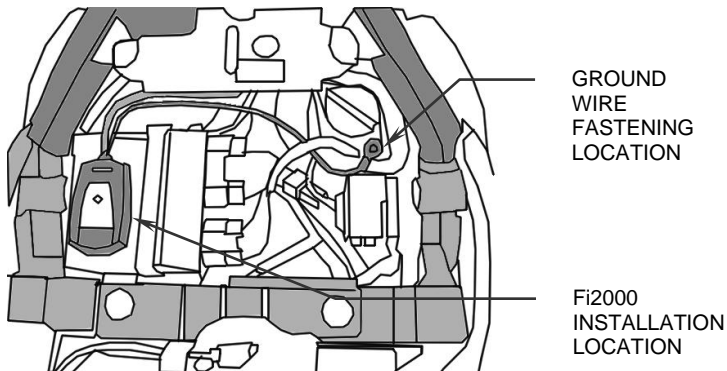

**FIGURE 3**
5. Locate the oxygen sensor on the muffler body near the power valve and trace the wire on it back up to under the seat, where it's male and female connectors are located. Move the fuse block out of the way, by depressing the plastic tab between the housing and the steel-mounting tab, and pull it upward out of the way to gain access to the oxygen sensor connectors mounted on the plastic tab. Disconnect the oxygen sensor by pulling the tab on the female connector outward and pulling the male connector towards the front of the bike, see Figure 3.